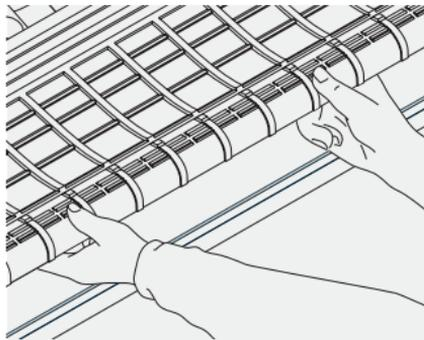

Fig. 40
- 6 The support tray should be laid so that the curved front edge dresses down over the fascia vent unit towards the gutter (each tray provides 600mm effective cover) (Fig. 40).